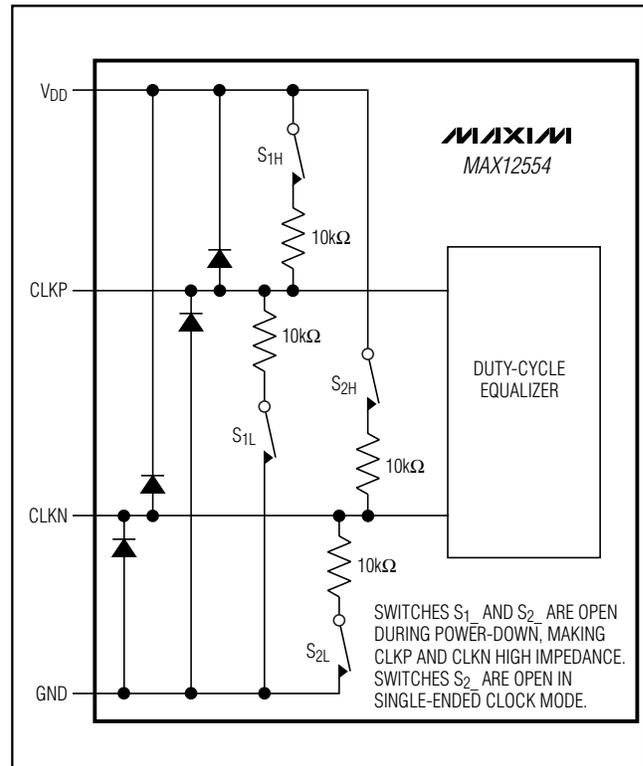

Figure 5. Simplified Clock Input Circuit
CLKP and CLKN are high impedance when the MAX12554 is powered down (Figure 5).
- CLKP, CLKN go high impedance (Figure 5).